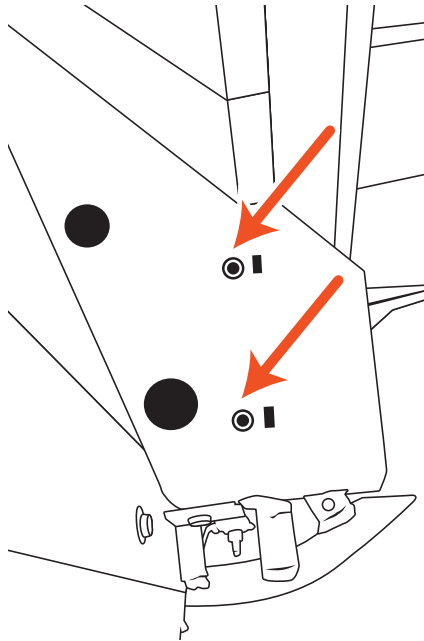

Figure 2 - Radiator Shroud Push Pins
7. Remove four push pins (two per side) securing the radiator shroud to the core support, shown in Figure 2.